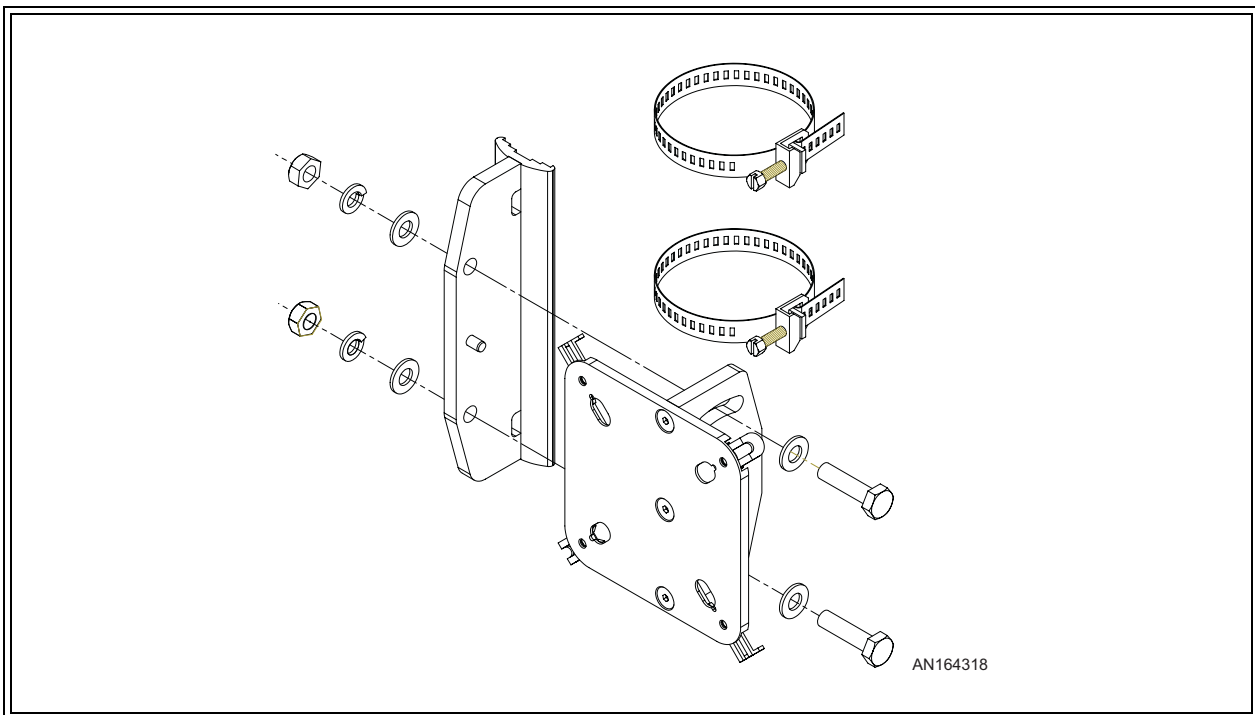

Figure 4-11 Adjustable Elevation Single Aeras WaveLink Bracket
- A See Figure 4-11. Assemble the two steel band clamps to the pole mount bracket.
- D Assemble the rest of the bracket parts as shown in Figure 4-11. Use a level to ensure that the coarse elevation is 0°. Continue with Section 4-3.2.